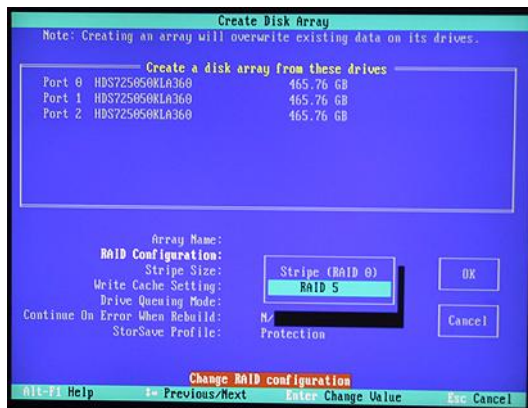

Figure 3-49
- 5) Use the up/down arrow keys to highlight the **RAID Configuration** item, and then press the <Enter> key to access an associated pop-up dialog (Figure 3-49).